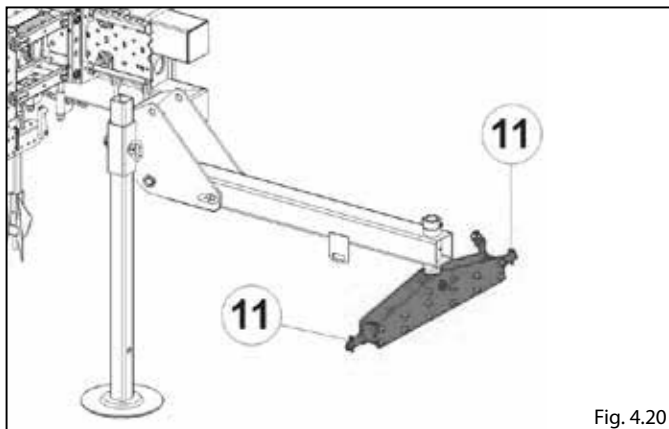

Fig. 4.20
- Hook the towbar to the hoist and fix it with pins **11** (Fig.4.20).